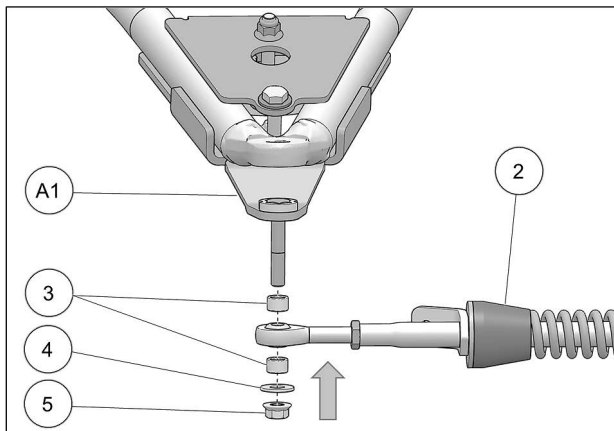

Fig. 31
14. Attach the stabilizing rod (2) to the anchor bracket (A1), using the two spacers (3), washer (4), and nut (5). Torque to 70 Nm [52 lb•ft]. See Fig. 31